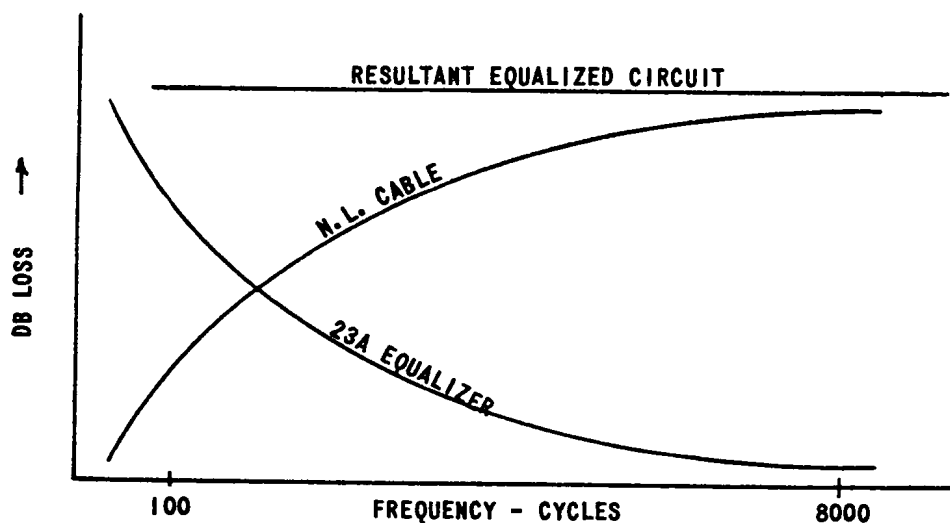

FIGURE 1
5.04 A graph shows the frequency response characteristic of a typical nonloaded cable pair, an adjusted equalizer, and the resultant equalized pair (see Figure 1).